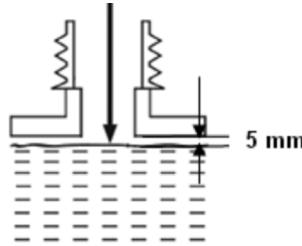

FIG. 12
2. Only use correctly mixed fuel/oil. Do not overfill. Leave a minimum 5mm of space between the top of the fuel and the inside edge of the tank (6) to allow for expansion (Fig. 12).
4. Wipe up spilled fuel with a soft cloth and refit the fuel tank cap (7).